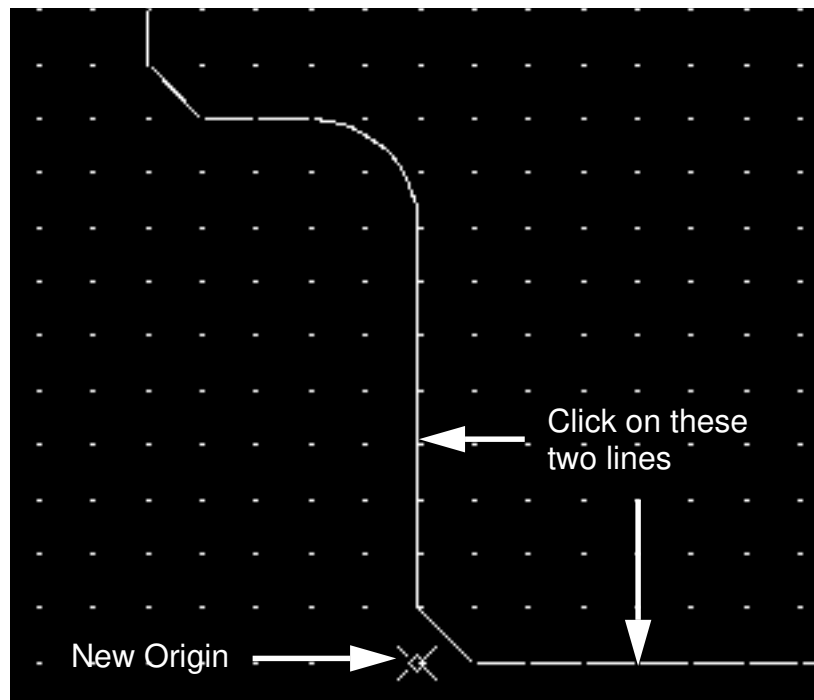

Figure 4-16. Relocating the Origin
40. Choose the **[Shapes] Move > Origin** menu item. Then choose the **[Shapes] Snap > Intersection** menu item. Next, click the Select mouse button on the lower horizontal edge of the board, and then on the lower-left vertical edge of the board. Refer to Figure 4-16.